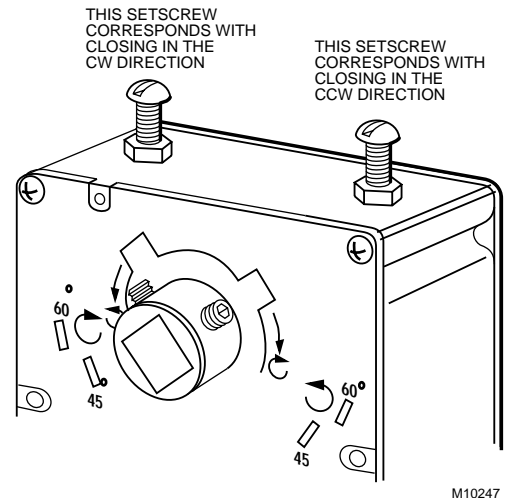

Fig. 8. Setscrew location for ML6131.
3. Determine the correct hole for the setscrew using Fig. 8 and the results of step 1.